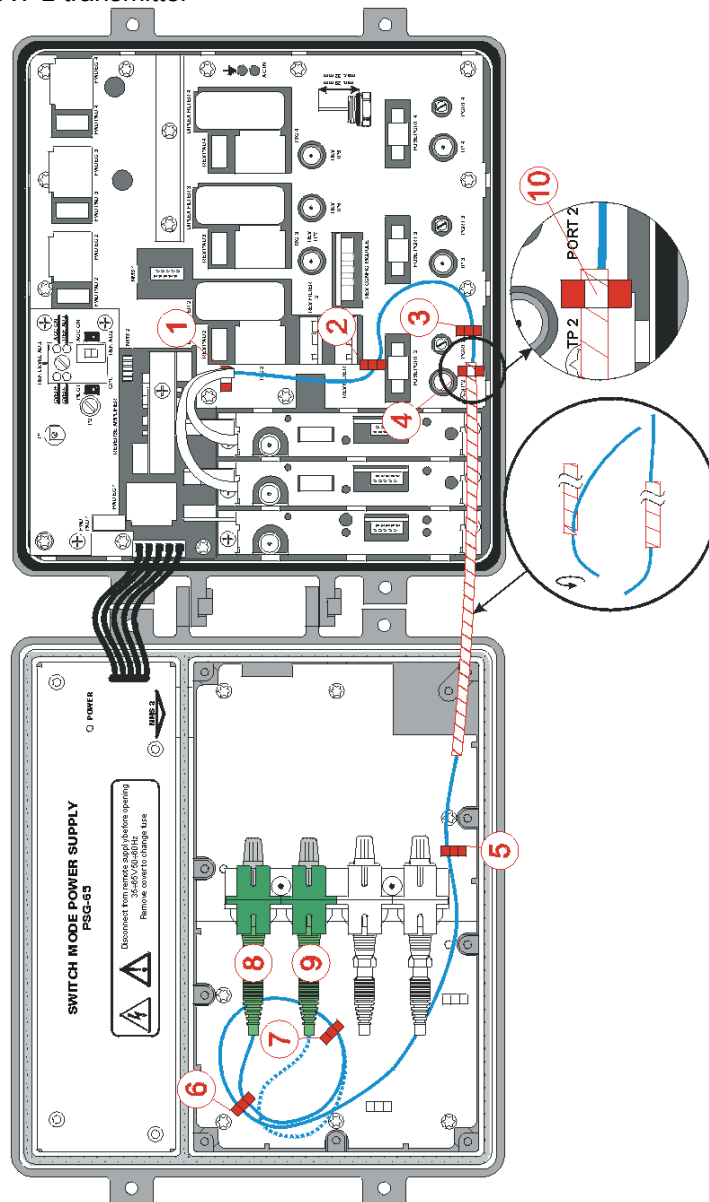

Fig. 12. ORT module mounting.
In the case of optical output for reverse path in optical node the optical reverse transmitter module **ORT** has to be installed. If dual reverse path is required two optical reverse transmitters have to be installed. One should pay attention to proper installation of fibers, which have to be mounted using fiber holders 1-7. In order to install optical reverse transmitter module **ORT** one should comply with the following procedure illustrated in Fig. 12:
2. Install reverse path module **RAG 29-1** or jumper **RJP** for the passive reverse path. Reverse amplifier should be placed in *REVERSE AMPLIFIER* socket and tightened using M3 screw, which is shipped with module (see Fig. 12).